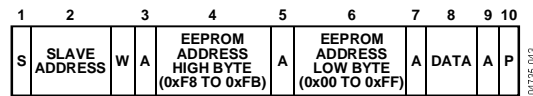

Figure 42. Single Byte Write to EEPROM
- To write a single byte of data to EEPROM. In this case, the command byte is the high byte of the EEPROM address from 0xF8 to 0xFB. The first data byte is the low byte of the EEPROM address, and the second data byte is the actual data, as shown in Figure 42.